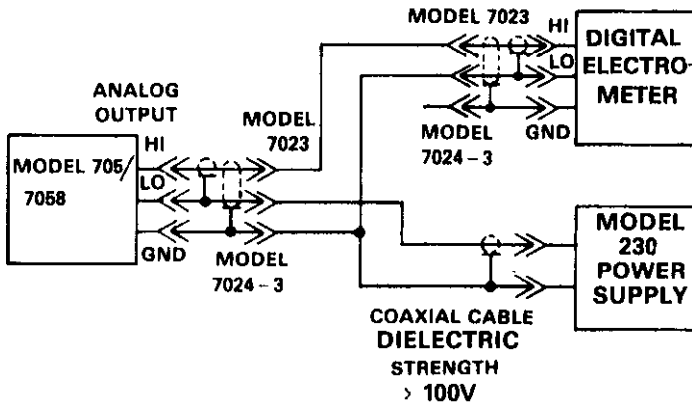

Figure 6. Test Set Up For Shunt Impedance Test
- A. Test Setup—Set up equipment as shown in Figure 6.